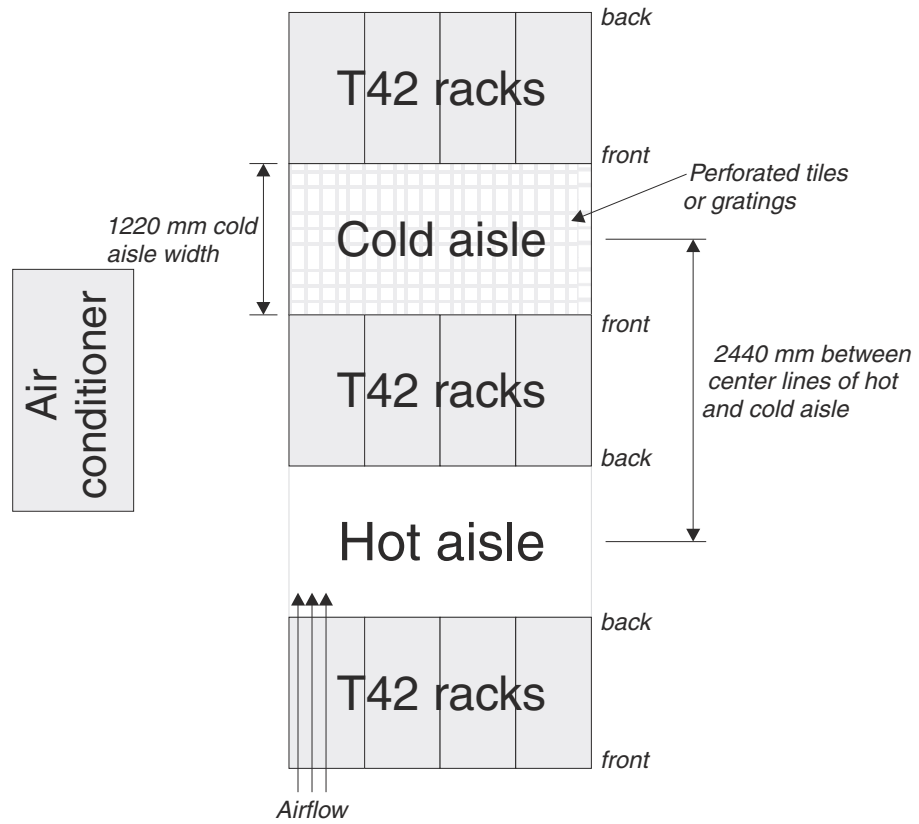

Figure 8. Example of cold aisle/hot aisle rack configuration
- Air enters at the front of the rack and leaves at the back. To prevent the air that is leaving the rack from entering the intake of another piece of equipment, you must position the racks in alternate rows, back-to-back and front-to-front. This arrangement is known as “cold aisle/hot aisle” and is shown in Figure 8 on page 13.